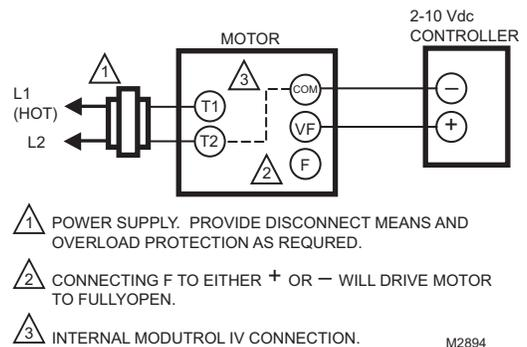

**Fig. 5. Sequential operation of three motors with Q7230A Interface Module.**
12. For sequential operation at two or more motors (as shown in Fig. 5), repeat the above steps for each motor, individually adjusting each for the desired response to the input signal.